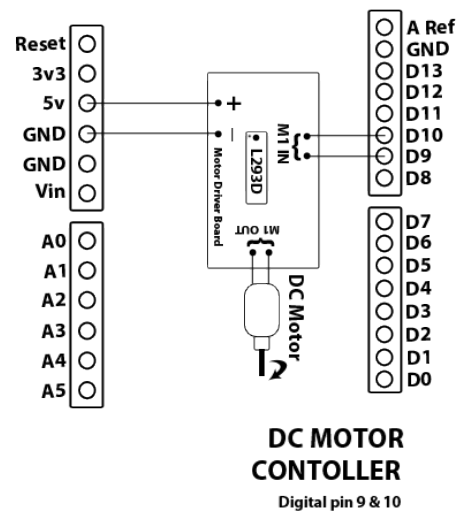
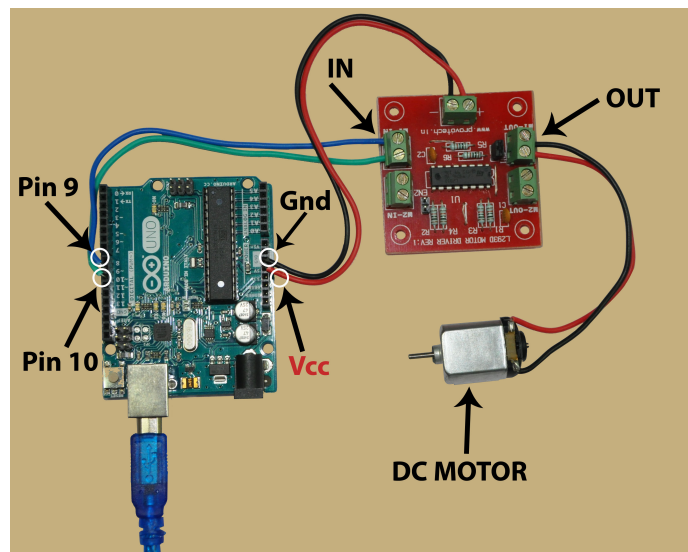

Figure 7.2: A schematic of DC motor connections
Figure 7.3: How to connect the DC motor to the Arduino Uno board
A schematic of these connections is given in Fig. 7.2. The actual connections can be seen in Fig. 7.3.
1. We now demonstrate how to drive the DC motor from the Arduino IDE. Arduino Code 7.1 has the required code for this. It starts the serial port at a baud rate of 9600. Pins 9 and 10 are declared as output pins and hence values can be written on to them. Next, we write PWM 100 on pin 9 and PWM 0 on pin 10. Recall from Fig. 7.3 that pins 9 and 10 are connected to the input of the breakout board, which in turn makes the DC motor run at an intermediate speed. Recall from Sec. 4.1 that a high on pin 9 also makes the blue LED come on. As a result, the blue LED also lights up.